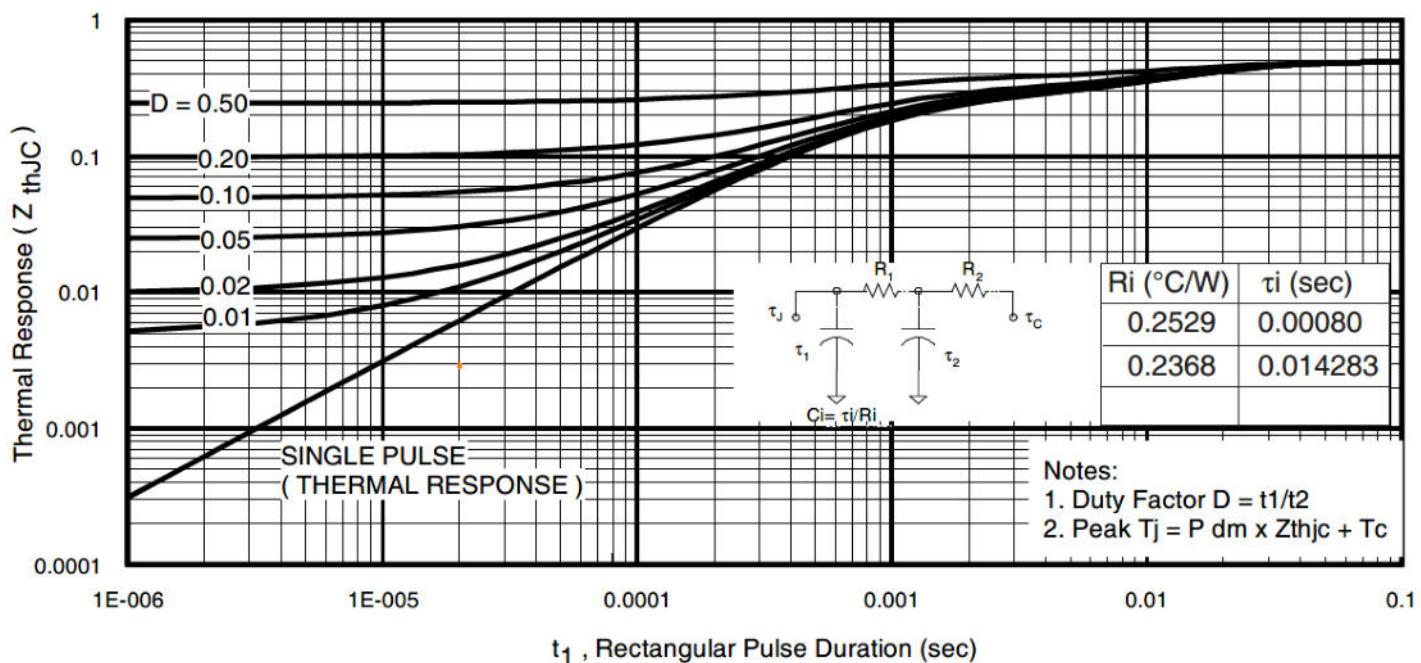
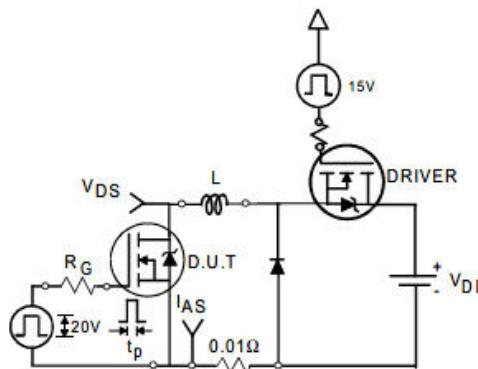

Fig 11. Maximum Effective Transient Thermal Impedance, Junction-to-Case
Fig. 12a. Unclamped Inductive Test Circuit
- ① Repetitive rating; pulse width limited by max. junction temperature. (See fig. 11).
- ② Limited by T_{Jmax} , starting $T_J = 25^\circ\text{C}$, $L = 0.12\text{mH}$, $R_G = 25\Omega$, $I_{\text{AS}} = 95\text{A}$, $V_{\text{GS}} = 10\text{V}$. Part not recommended for use above this value.
- ③ Pulse width $\leq 1.0\text{ms}$; duty cycle $\leq 2\%$.
- ④ $C_{\text{oss eff.}}$ is a fixed capacitance that gives the same charging time as C_{oss} while V_{DS} is rising from 0 to 80% V_{DSS} .
- ⑤ Limited by T_{Jmax} , see Fig.12a, 12b, 15, 16 for typical repetitive avalanche performance.
- ⑥ This value determined from sample failure population. 100% tested to this value in production.
3. Equation below based on circuit and waveforms shown in Figures 12a, 12b.
$Z_{th,JC}(D, t_{av})$ = Transient thermal resistance, see Figures 11)